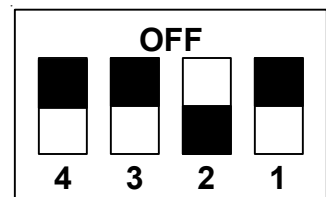

Figure 6
19. Move Dip switch No. 3 to OFF (see Fig. 6).